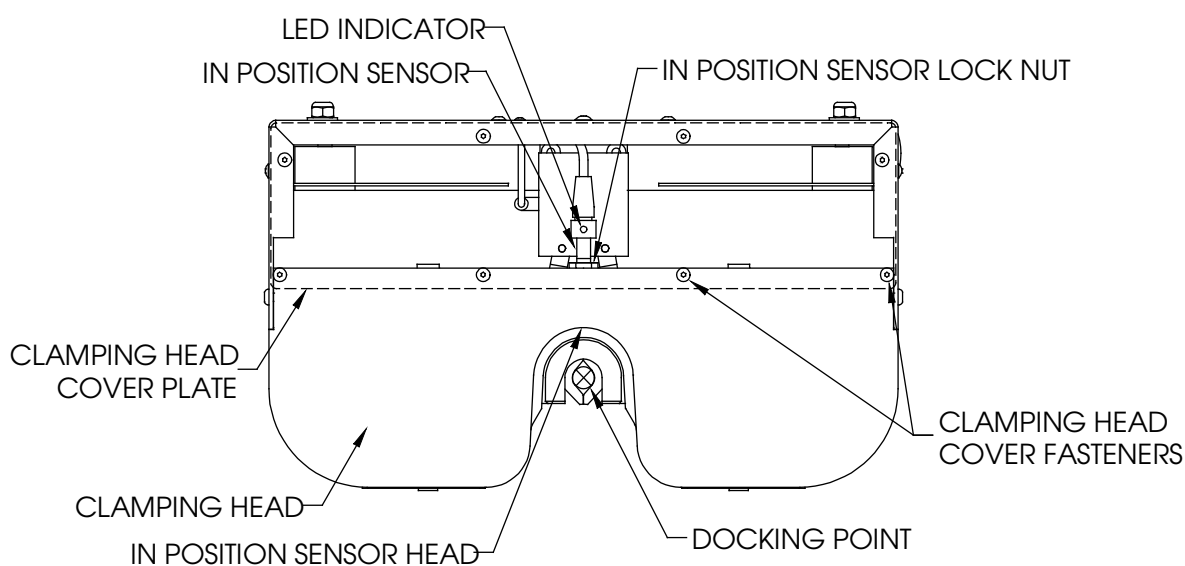

Figure 11. In Position Sensor adjustment
The In Position Sensor is used to detect when the DC100 Disk Collet has fully entered the Docking Point and is ready to be clamped. The In Position Sensor is located in the Clamping Head shown in Figure 11. The In Position Sensor is set at the factory and should not require adjustment. However, there are situations which could arise that require it to be adjusted or replaced.
1. Remove the (8) eight Clamping Head Cover Fasteners and Clamping Head Cover Plate from the top of the Clamping Head Frame.
2. Place a metallic object (such as a screwdriver blade) over the In Position Sensor Head, shown in Figure 11.